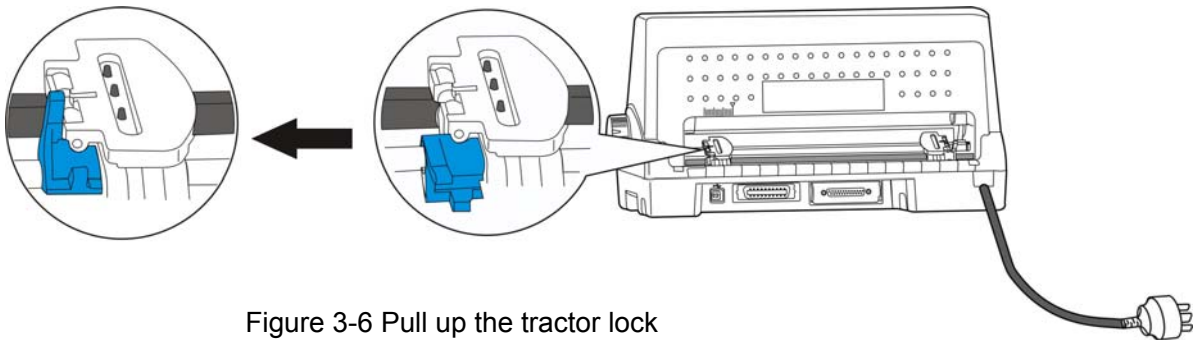

Figure 3-6 Pull up the tractor lock
2. Insure the paper select lever in the tractor paper mode as shown in Figure 3-6.